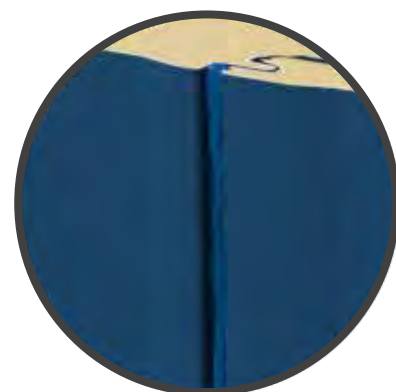

figure 16.2b
- fill **exterior** reveal above penetration with color matched urethane sealant (not by panel manufacturer) to top of panel (figure 16.2b)